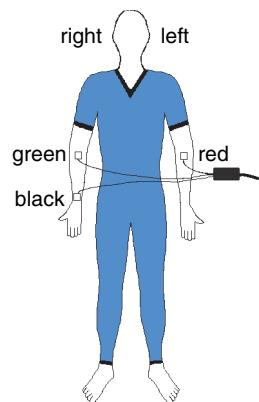

Figure 1.1
3. Apply three electrode patches to the subject's arms and clip the leads to the electrodes patches as illustrated in Figure 1.1.
- Apply adhesive electrode patches to the right wrist, right forearm just below the elbow, and left forearm just below the elbow (Figure 1.1). Press the patches firmly for best adhesion and signal quality.